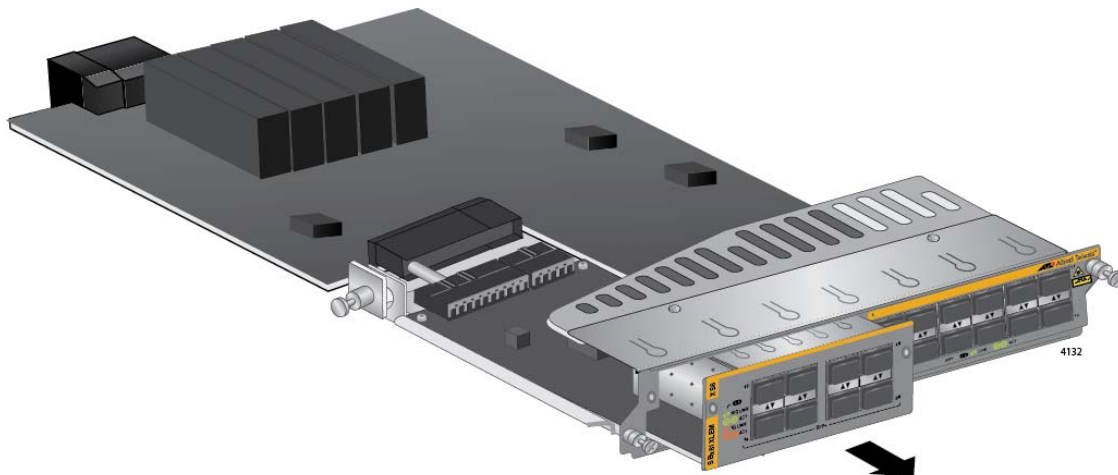

Figure 186. Sliding the Expansion Module from the AT-SBx81XLEM Line Card
6. Slide the expansion module from the line card. Refer to Figure 186 on page 312.